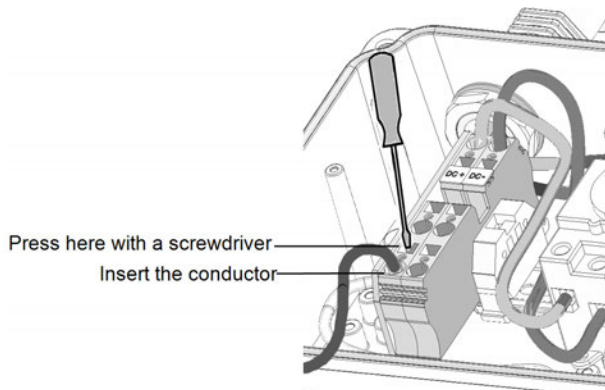

Figure 25: DC Spring-clamp terminal example - 9kW, 10kW and 20kW inverters
- Use a standard flat-blade screwdriver to connect the wires to the spring-clamp terminals. The screwdriver blade should fit freely in the terminal opening. Too large a blade can crack the plastic housing. See *Figure 25*